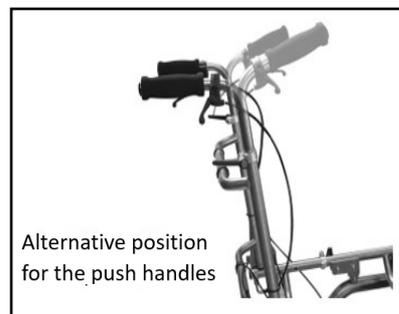

Figure 4
- Alternative positions for the push handles are shown (figure 4). This is useful if pushing the Neo when tilted.